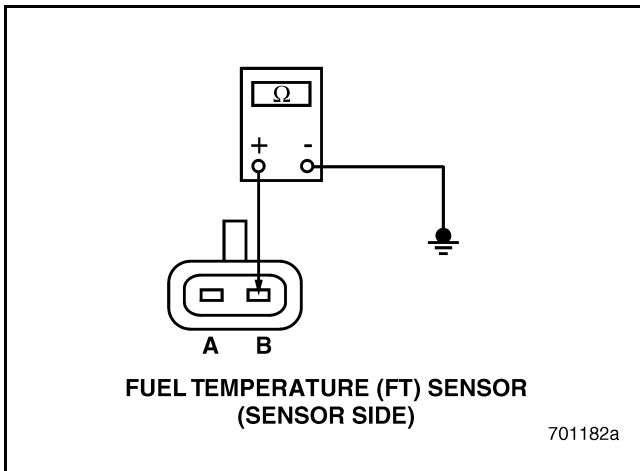

Figure 41
3. Check for continuity from either pin of the FT Sensor to a good ground (see Figure 41). If continuity exists, replace the FT Sensor. If there is NO continuity, go to test "Test 10 — Checking Sensor Resistance" on page 69.